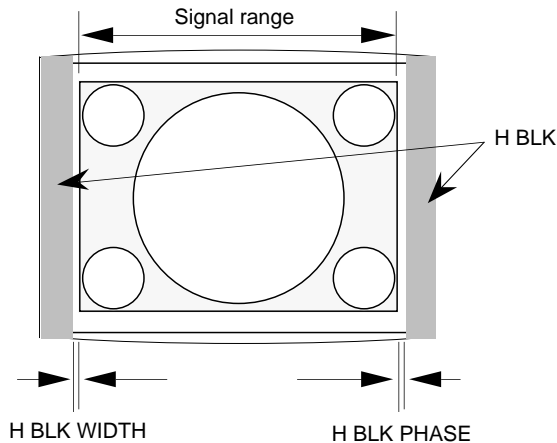

Fig. 1-7
6. Adjust the H BLK PHASE data and adjust so that H Blanking is 0.25 frame outside the right edge of the monoscope signal area. (Fig. 1-7)
7. Adjust the H BLK WIDTH data and adjust so that H Blanking is 0.25 frame outside the left edge of the monoscope signal area. (Fig. 1-7)